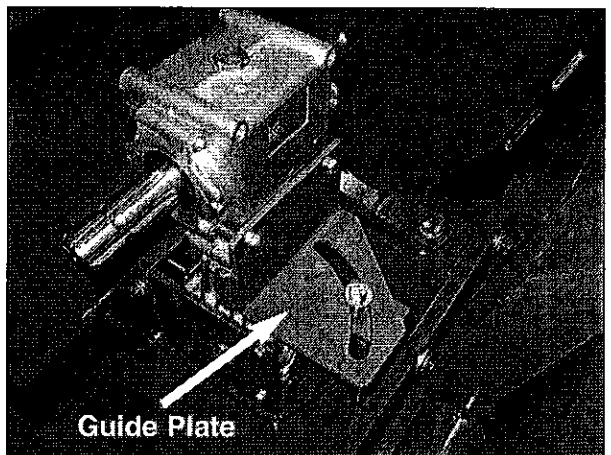

Figure 23
6. Reinstall the guide plate (Figure 23).